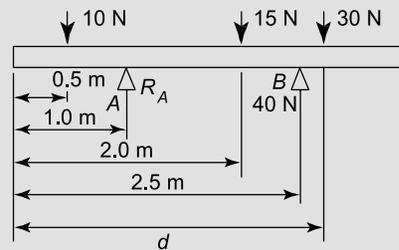

Figure 5.12
**Problem 7.** For the beam shown in Figure 5.12 calculate (a) the force acting on support  $A$  (b) distance  $d$ , neglecting any forces arising from the mass of the beam.